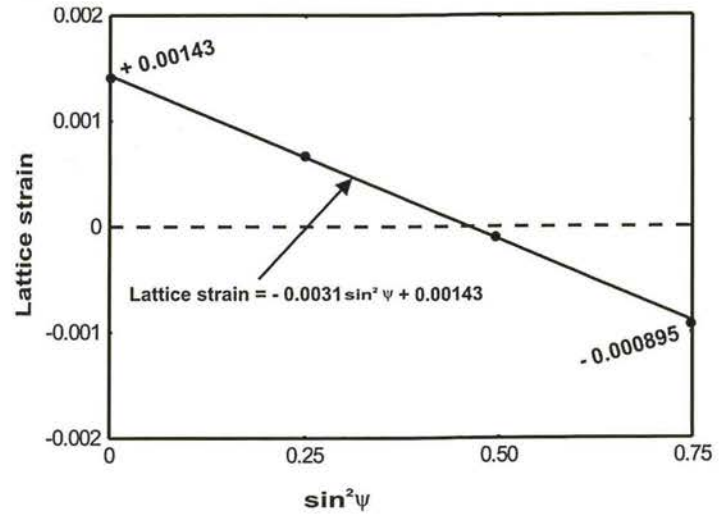

Fig.4 Linear relationship between lattice strain and $\sin^2\psi$.
A circular steel disc has been uniformly peened so that a surface residual stress of - 500MPa has been induced. In this particular situation the residual stress does not vary with angle ϕ , so that we have that $\sigma_1 = \sigma_2 = \sigma_{\phi} = -500\text{MPa}$. The elastic constants for this steel disc are known to be such that $E = 210\text{GPa}$ and $\nu = 0.30$. $\sigma_{\phi} (v + 1) / E$ then equals -0.0031 and $-(v / E) \cdot (\sigma_1 + \sigma_2)$ equals +0.00143. Putting these values into equation (4) gives that $\epsilon_{\phi,\psi} = -0.0031. \sin^2\psi + 0.00143$. This equation is plotted as fig.4.
for which the lattice strains of fig.4 have been converted into interplanar spacings. The known interplanar spacing for unstressed material, d_u , is given a value of 1.000000. Relative to that unit value the maximum and minimum measured spacings would be 1.001430 and 0.999105 respectively. The average of those two values is 1.0002675. Using 1.0002675 for d_u (instead of 1.000000) introduces an error of only one part in four thousand. That error is insignificant relative to the accuracy with which we know such factors as the elastic constants.